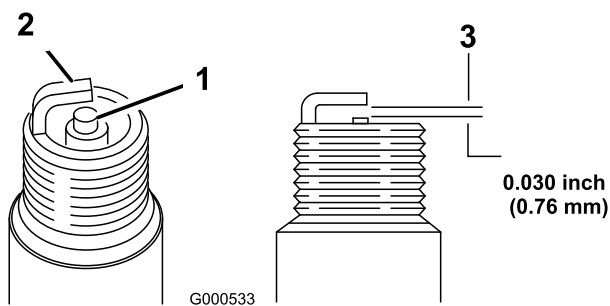

Figure 36
- Set the gap on the plug to 0.030 inch (0.76 mm) (Figure 36).